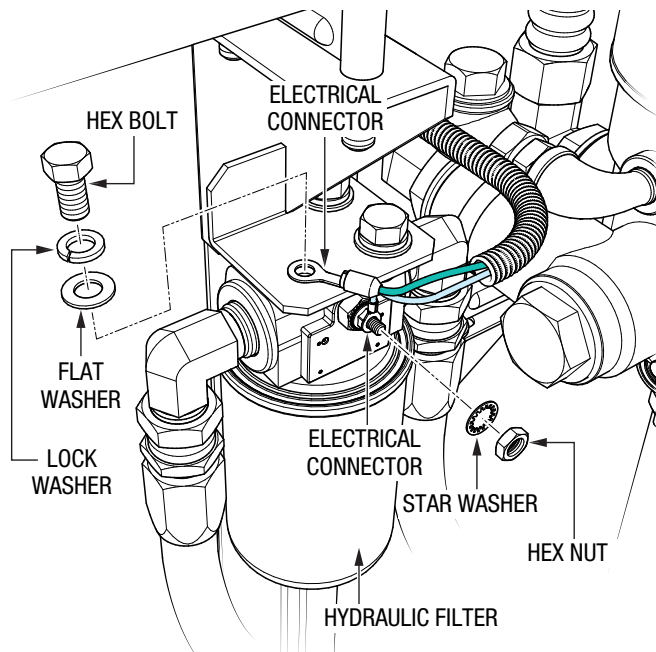

Figure 24. Hydraulic Filter Reinstallation
1. Reinstall the hydraulic filter with the original hardware that was removed earlier (Figure 24). Be sure to secure the two electrical connectors to the filter in their original positions.